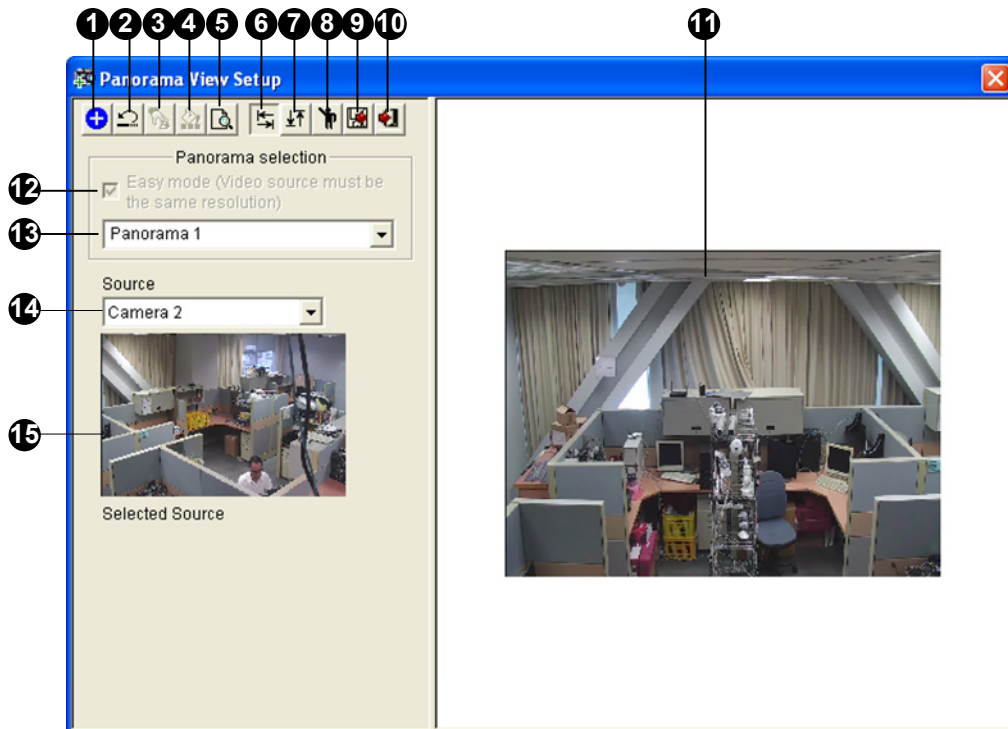

Figure 3-43
1. Select one panorama set (No. 13, Figure 3-43) from the drop-down list. If you want to rename the selected panorama set, type the name in the field.
2. Select one camera from the Source drop-down list (No. 14, Figure 3-43) and then click **Manual Setting** (No.3, Figure 3-43). This dialog box appears.
8. When you finish stitching images, click the **Save Before Exit** button (No.6, Figure 3-43) to save the created panorama view before exiting the Panorama View Setup dialog box.
1. Select **Easy Mode (Video source must be the same resolution)** (No. 12, Figure 3-43).
- Use the **Source** drop-down list (No. 14, Figure 3-43) to select the first camera view to be placed in the panorama and click the **Add**  button. The first camera view is added to the Preview Window.